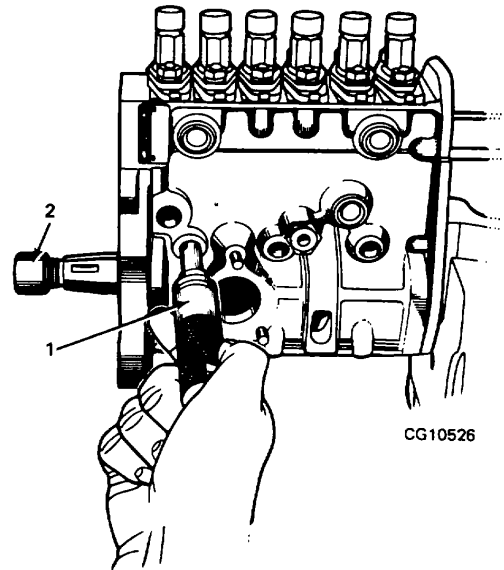

Figure 23. Installing Tappet Holder
NOTE: Camshaft front end should have drive end cam nut installed to protect end from damage when rotating (Figure 23).
21. Hold tappet holder with ramps up and insert holder as far as possible into the side hole. The tappet holder will only go part way in, lifting tappet No. 1 off the camshaft (Figure 23). Rotate camshaft until plunger No. 2 is at TDC. Push tappet holder the rest of the way in (push hard with the palm of hand).